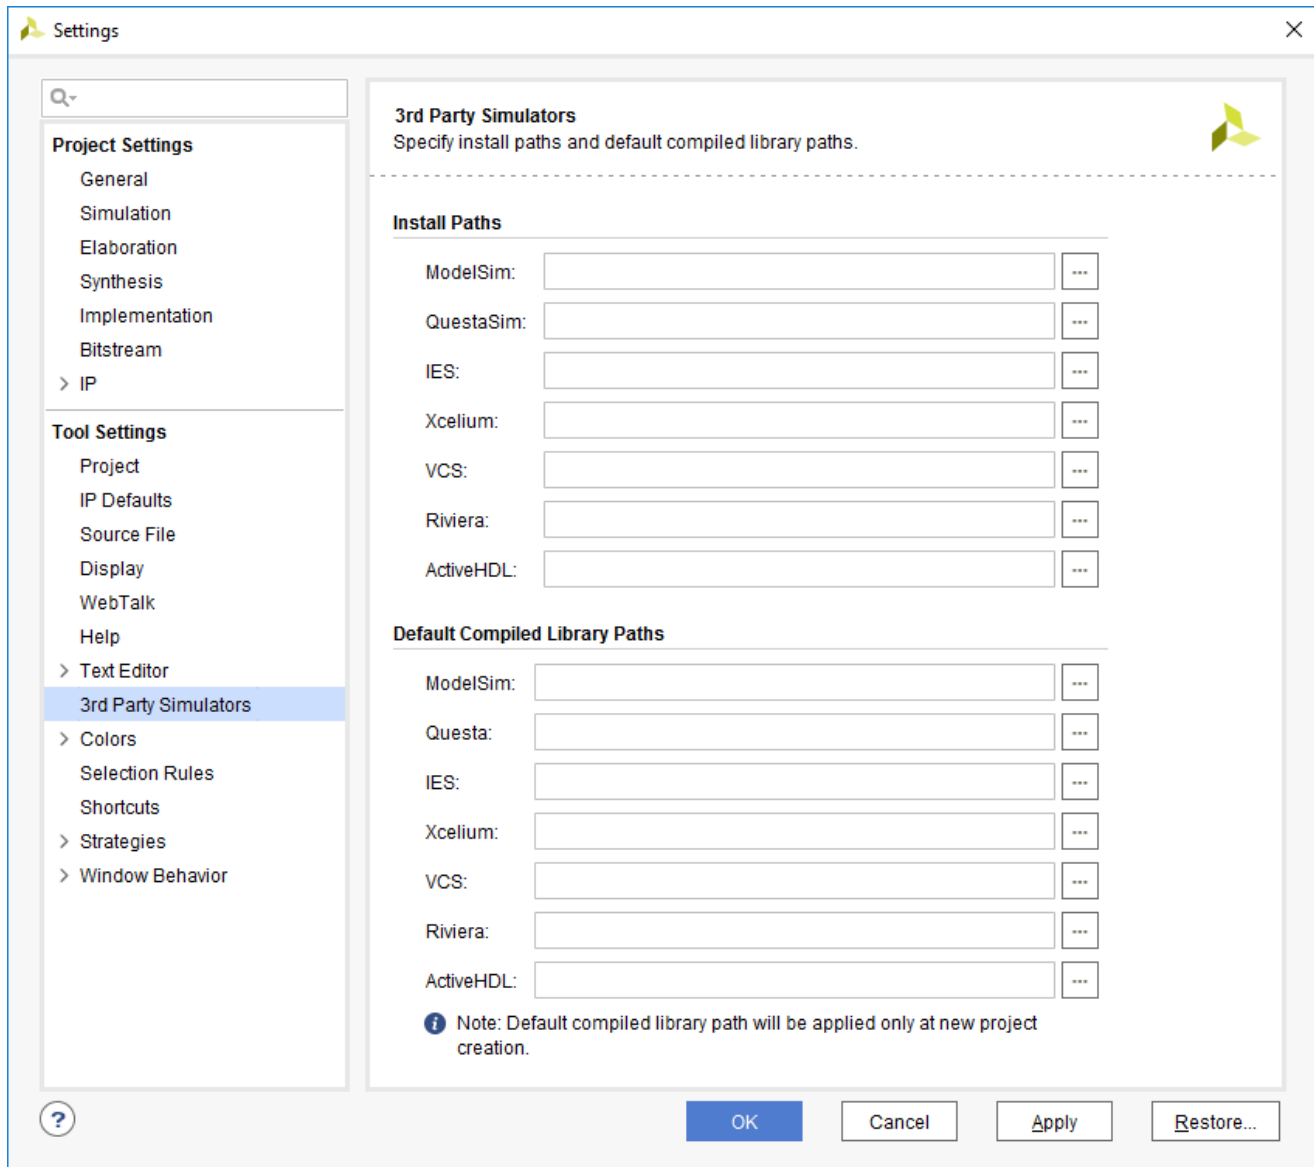

Figure 2-1: Vivado Design Suite 3rd Party Simulators Install Path
2. In the 3rd Party Simulators tab of the Settings dialog box, select the simulator under the Install Paths as shown in Figure 2-1, and browse to the installation path.